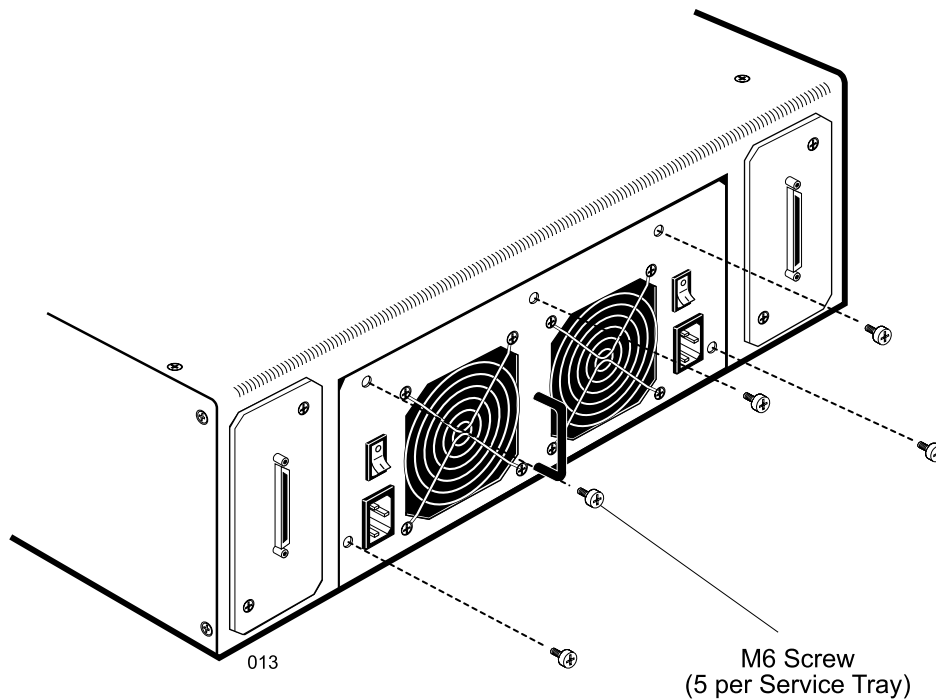

Figure 17: Service Tray Screw Location and Removal
- Using the service tray handle, carefully pull out the service tray from the NetMEDIA chassis (Figure 17).